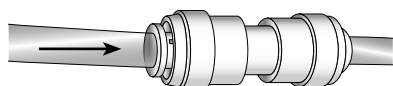

Figure 3
- Route a 1/4" copper, pex or equivalent tubing from the water source and connect to the water inlet fitting on the unit as shown in **Figure 3**.